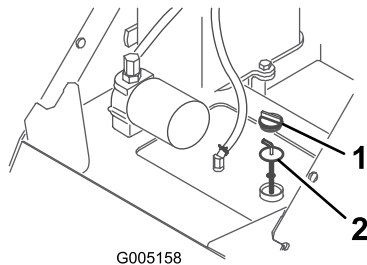

Figure 9
4. Clean the area around the filler neck of the hydraulic tank (Figure 9).
5. Remove the cap from the filler neck and check the fluid level on the dipstick (Figure 9).